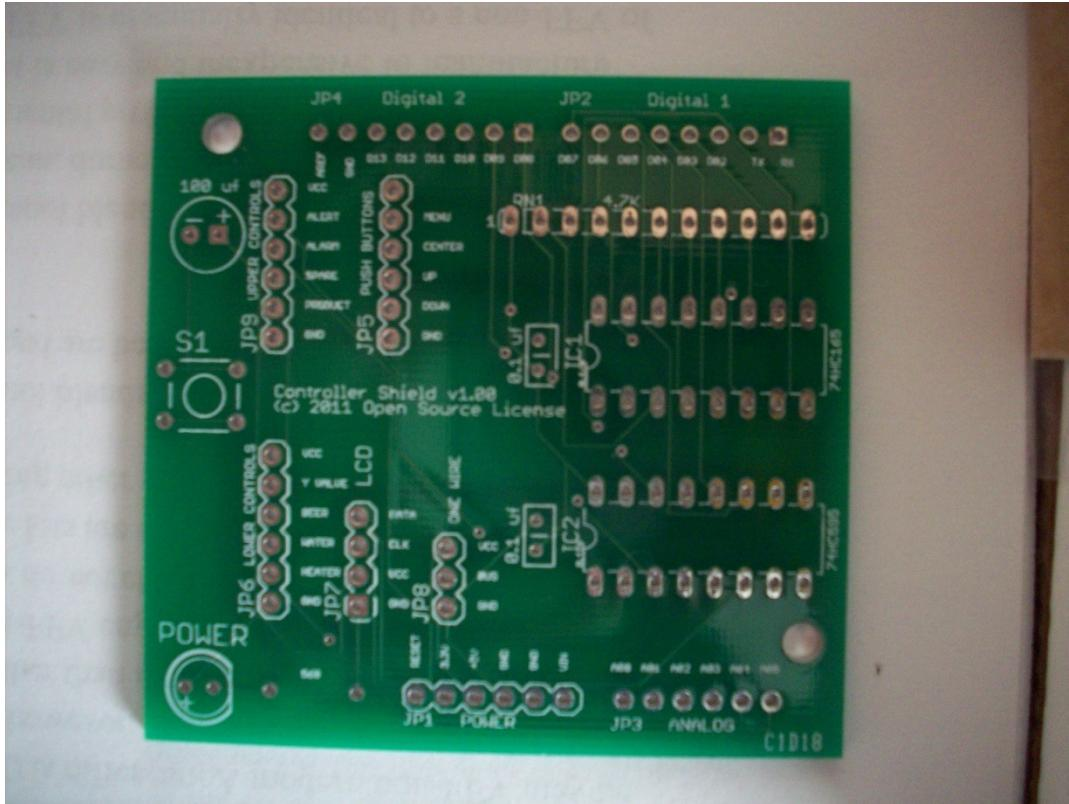

Figure 4-19. Bare Shield Board.
To help familiarize you with the Shield Board connection points and orientation, figure 4-19 is a close-up view of a bare Shield Board.
Referring to figure 4-19, you will see two 6-pin header connectors near the front of the board (the side where the “POWER” LED is; left side of figure 4-19). JP6 provides the lower digital output signals (#1 - #4) and JP9 provides the upper digital output signals (#5 - #7, and #8 which is for the Audible Alert). Each of these connectors has pin #1 (lowest on the figure) connected to ground and pin #6 (highest on the figure) connected to Vcc (+5 volt power). The middle pins are the digital outputs in numerical order, lowest to highest on the figure.
JP5 is to the right of JP9, at the top of figure 4-19. It is a 6 pin header but only 5 of the pins are wired. From the bottom (as per the figure) up, the pins connect to ground, DOWN pushbutton, UP pushbutton, CENTER pushbutton, and MENU pushbutton. If you assembled the cover correctly in step 4.2.4, above, then the cable connector from the pushbuttons is correct and ready to plug into the assembled Shield Board.
connector pins of the Shield Board so that the white wire is at the bottom per figure 4-19 (white wire to Ground) and the red wire is at top (red wire to Vcc).
- Take another of the 6 conductor interconnect cables and cut off the connector at one end. Take the other end (the one with the connector still on it) and plug it onto the JP9 connector pins of the Shield Board so that the white wire is at the bottom per figure 4-19 (white wire to Ground) and the red wire is at top (red wire to Vcc).
- Take the 5 wire cable from the pushbutton switches (6 pin connector with one wire clipped off) and plug this cable into JP5 on the Shield Board. When viewed with the orientation of figure 4-19, the lowest wire is white, followed by green, yellow, blue and black. The red wire has been cut off when assembling the box cover (per section 4.2.4, above).